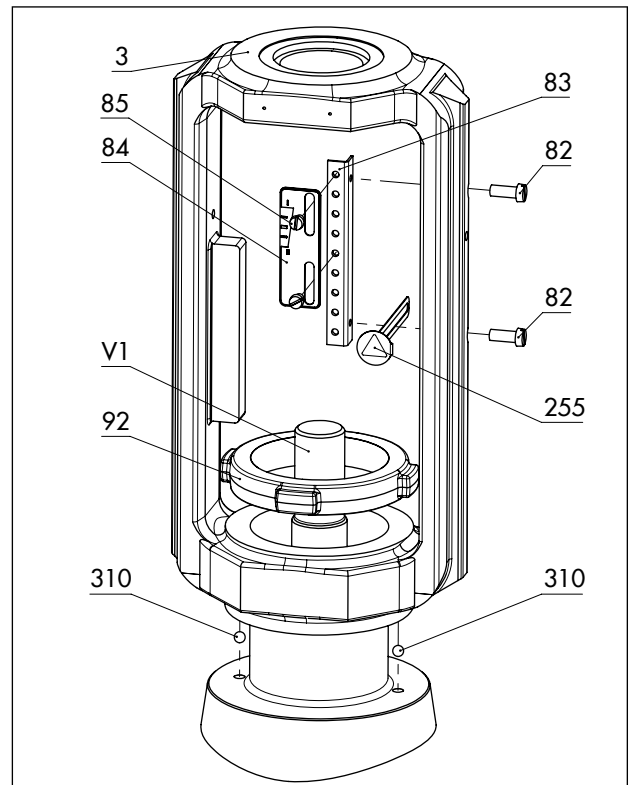
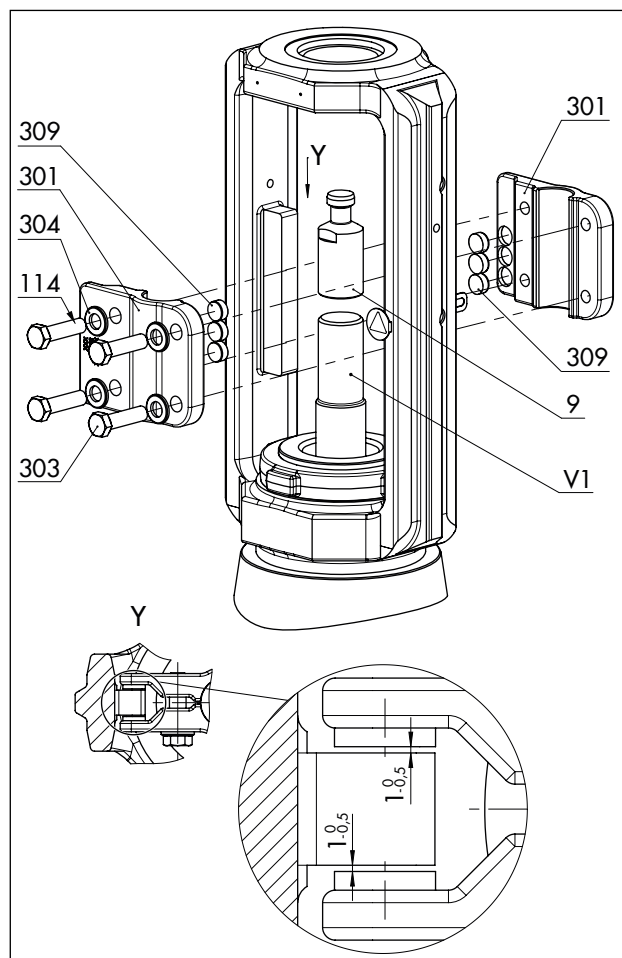

Fig. 16: Overview of yoke assembly with travel indicator scale in the standard version
Fig. 17: Overview of anti-rotation fixture assembly in the standard version
See Fig. 16 and Fig. 17
- There is a nominal clearance of 0.5 to 1 mm between the sliding washers and their contact surface on the yoke on each side (see detailed view Y in Fig. 17).